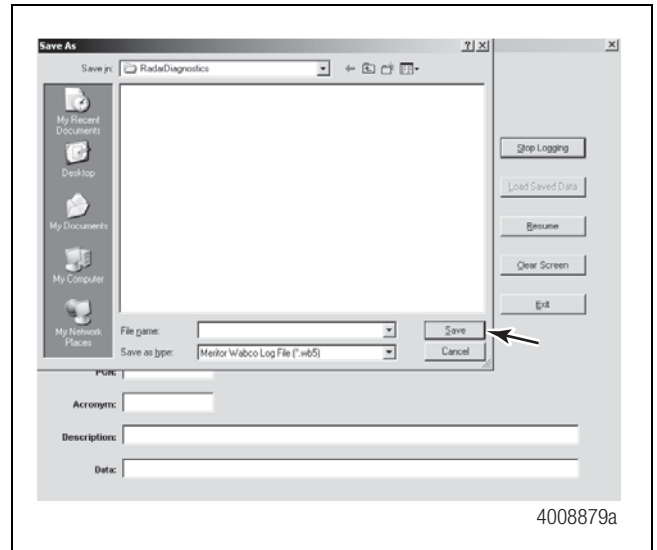
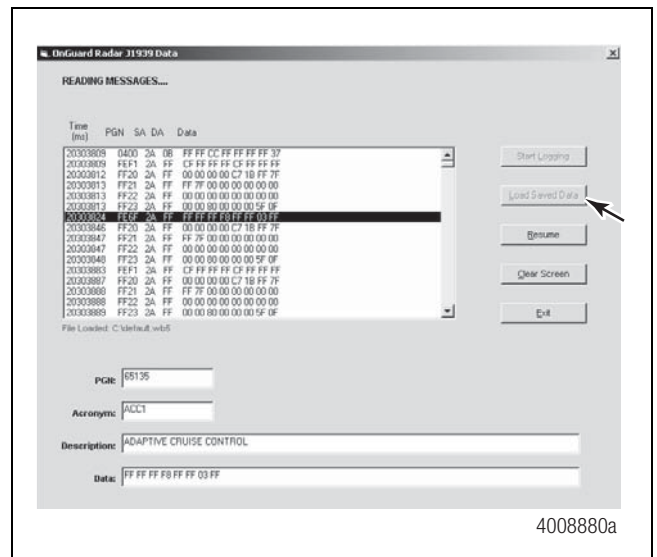

Figure 2.17
Figure 2.18
- A "Save As" screen will then come up asking you to name the file and select where it will be saved. Figure 2.17. Specific messages can also be viewed after saving the file by clicking on "Load Saved Data", and then highlighting the desired message. Figure 2.18.